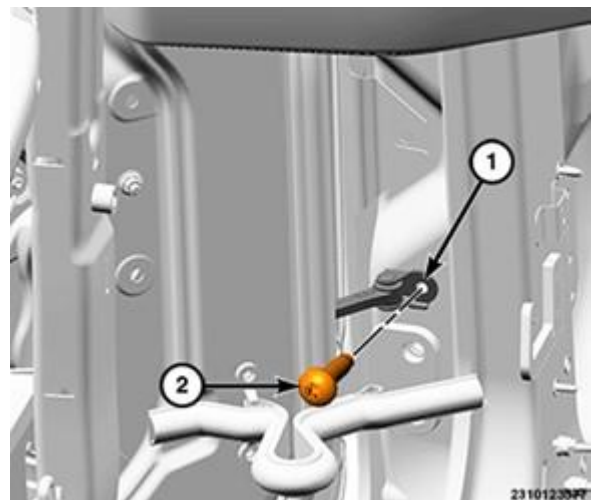

Figure 26 – Door Check Bolt
22. Remove the bolt (2) securing the door check (1) (Figure 26).
47. Install the door check strap bolt securing the door check and tighten to 9N·m (80 in. lbs.) (Figure 26).